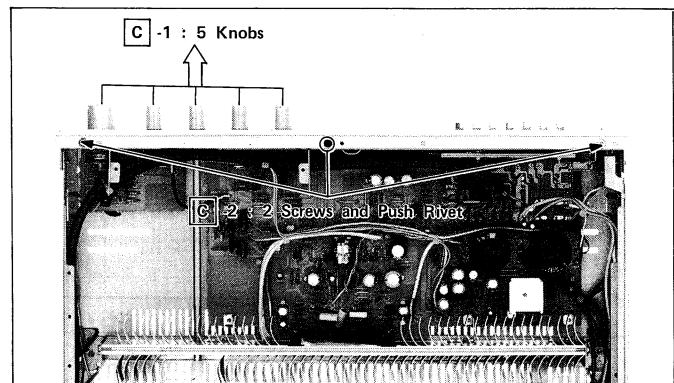

Figure 3-3
1. Pull out the five knobs (Bass control/Treble control/Function selector/Balance control/Volume control) from the front panel. (Refer to Figure 3-3)